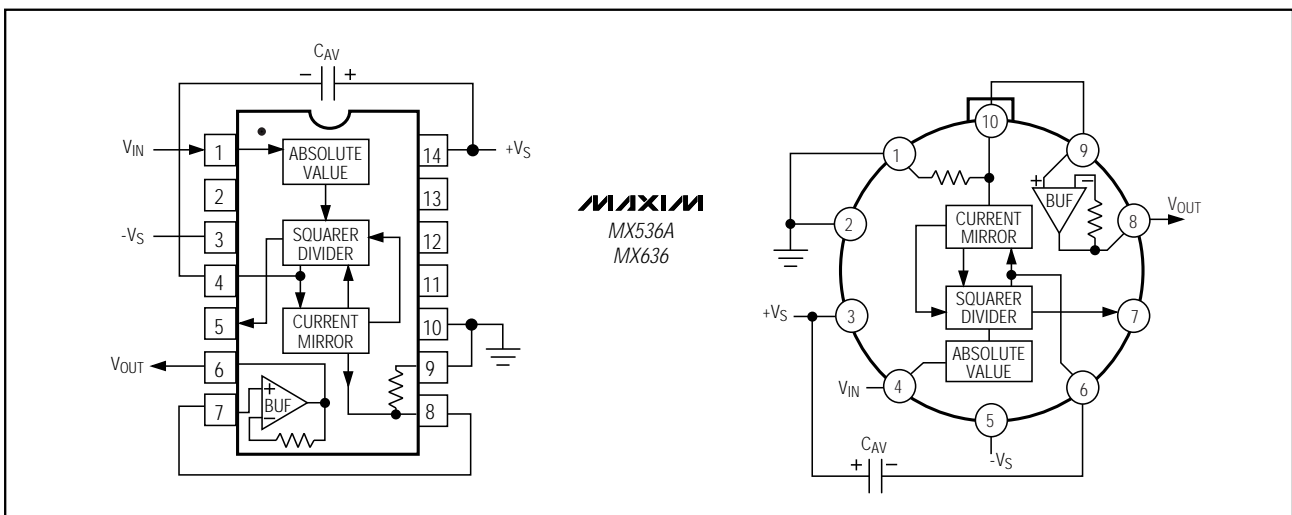

Figure 2. MX536A/MX636 Standard RMS Connection
**Note 1:** Accuracy is specified for 0 to 7VRMS, DC or 1kHz sine-wave input with the MX536A connected as in Figure 2.
### Standard Connection (Figure 2)